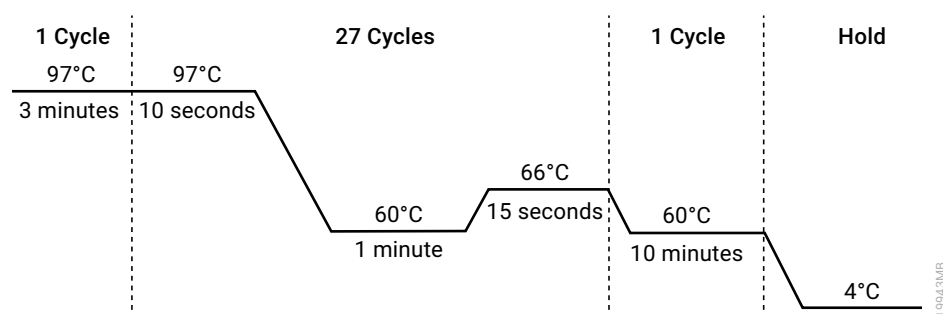

Figure 32. Thermal cycling protocol for the Mastercycler® X50s System.
- Select and run the protocol provided below and in Figure 32. The total cycling time is approximately 70 minutes.